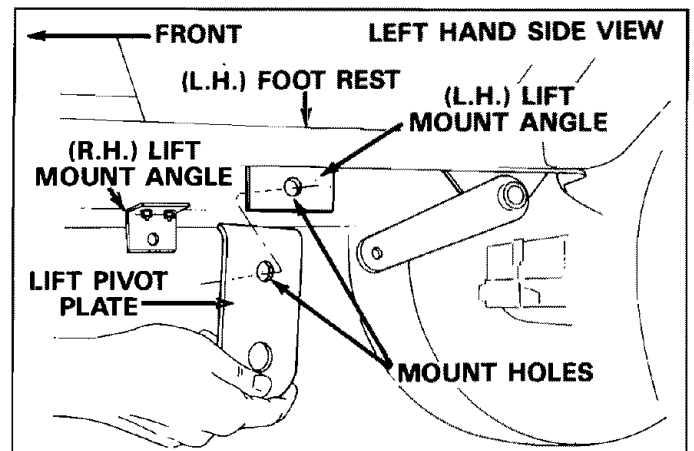

FIGURE 15
17. Assemble lift pivot plate to inside of left hand lift mount angle. See figure 15. Secure with one 1/2" x 1" clevis pin (from inside through mounting holes) and one 1/8" (large) hairpin cotter through small hole in clevis pin. See figures 15 and 16. **NOTE: Do not assemble lift pivot plate to right hand lift mount angle at this time.**